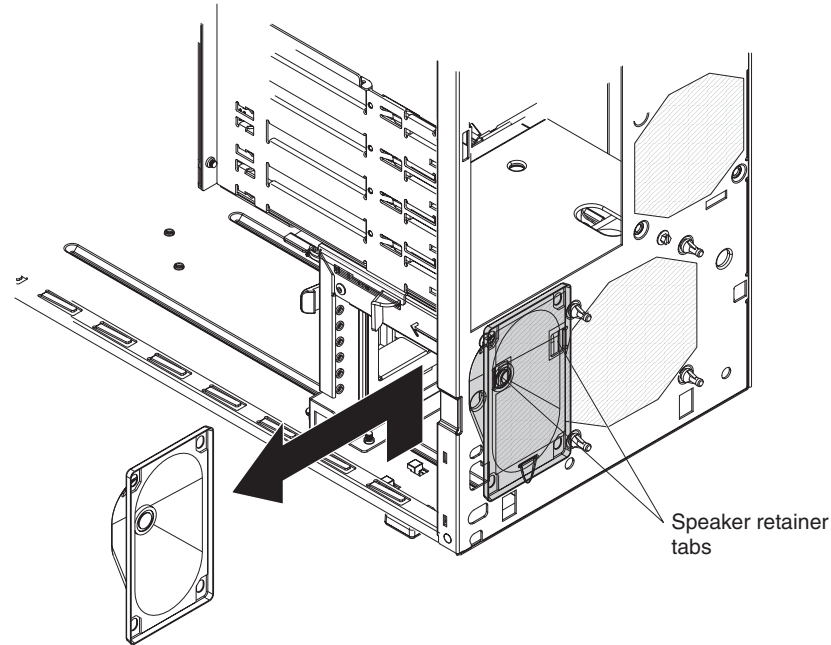

Figure 23. Removing the speaker
7. Grasp the speaker and slide the speaker out of its retaining tabs toward the top of the chassis; then, lift it out of the chassis (see Figure 23).